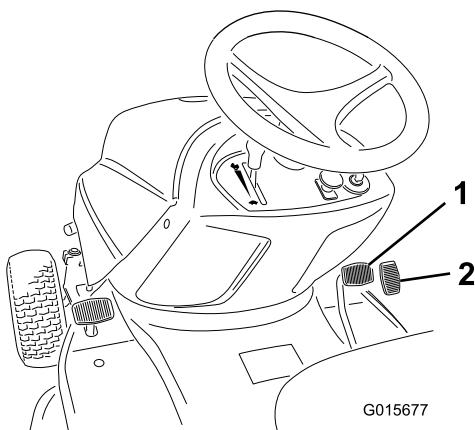

Figure 14
2. Place your foot on the forward speed pedal and slowly press on the pedal to move forward (Figure 14).
2. Place your foot on the reverse speed pedal and slowly press on the pedal to move backward (Figure 14).